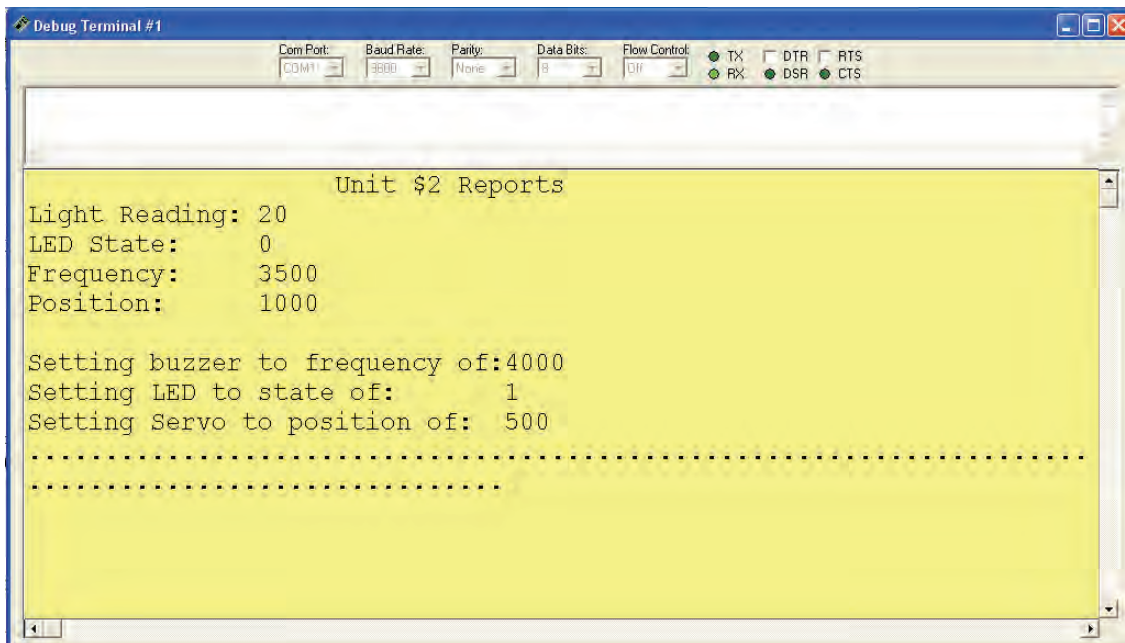

Figure 5-8: Scheduled Update Monitoring in Debug Terminal
- ✓ Using the Debug Terminal, monitor the updates as shown in Figure 5-8.